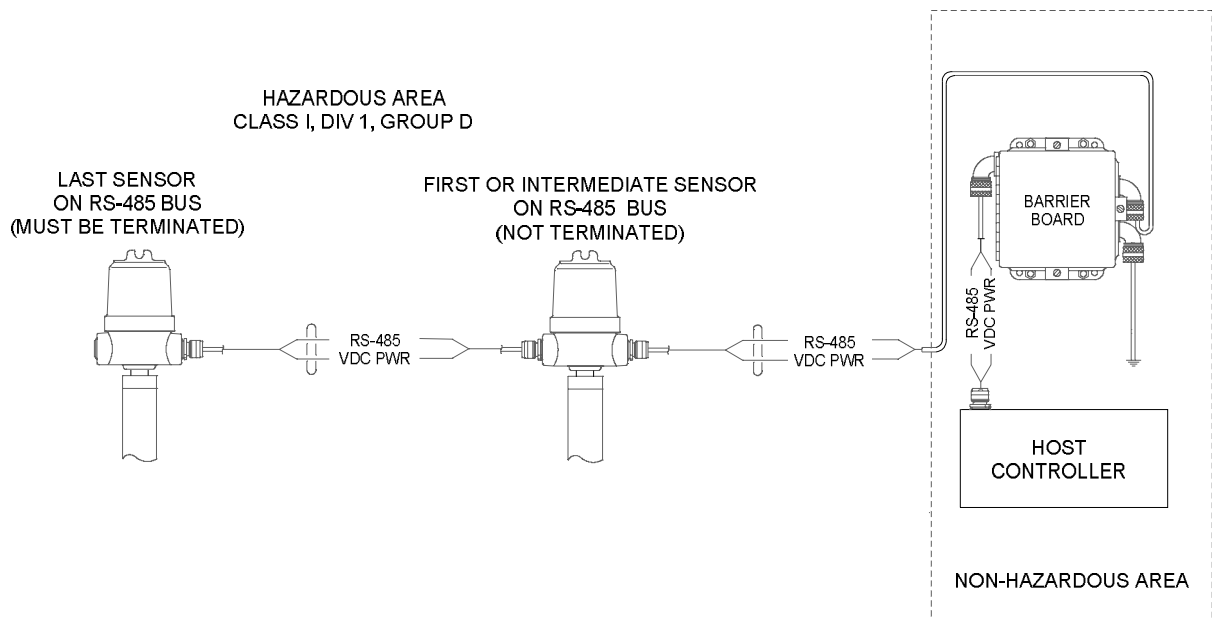

Figure 5: LevelMaster Group D hazardous location installation
LevelMaster sensors are CSA-certified for installations in hazardous locations when connected through Totalflow CSA-certified barrier boards in accordance with the Totalflow certification drawings (see Figure 5).
**IMPORTANT NOTE:** Figure 5 shows the barrier enclosure (not the actual barrier board). The barrier board required depends on the location classification. Two board options are available for Class 1, Division 1 locations. For Group D, barrier boards must be part number 2100336-001. For Group C and D, barrier boards must be part number 2100336-002. Barrier boards are sold with their enclosure. Replacement barrier board kits are also available. Contact ABB for details.